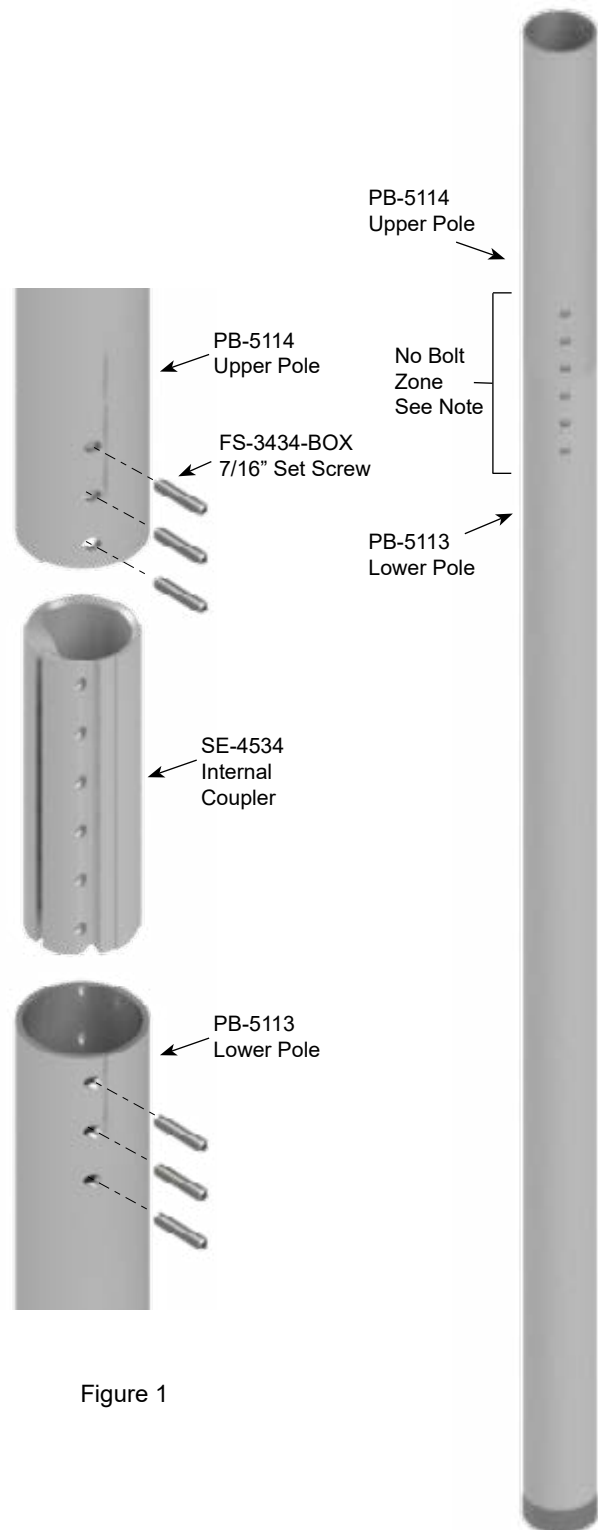

Figure 1
1. Insert the SE-4534 Internal Coupler into the PB-5113 Lower Pole and align the lower (3) holes of the coupler with the holes in the pole. Insert (3) of the supplied set screws through the holes in the pole into the coupler. Do not tighten at this time (Figure 1).
2. Slide the PB-5114 Upper Pole over the SE-4534 Internal Coupler and align the (3) holes of the coupler with the holes in the pole. Insert (3) of the supplied set screws through the holes in the pole and into the coupler. Do not tighten at this time (Figure 1).